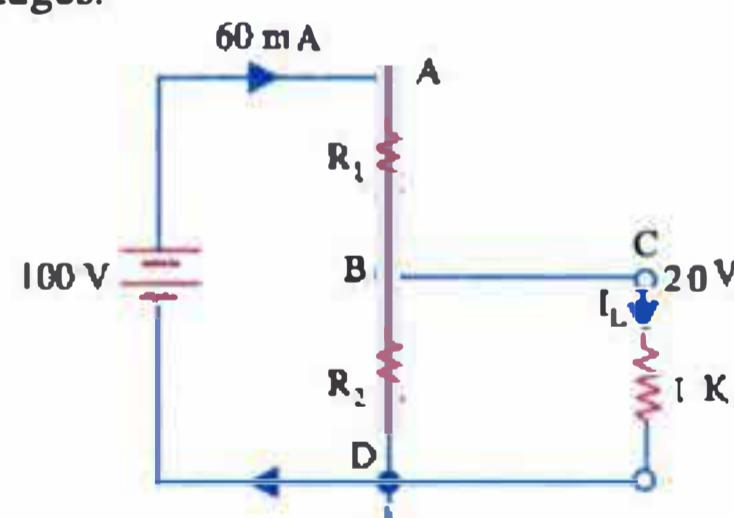

Fig. 2.15
**Example 2.6.** In Fig. 2.15, find values of  $R_1$  and  $R_2$  if the voltage applied across load resistor of 1 K is to be 20 V. The maximum current which the battery can supply is 60 mA.